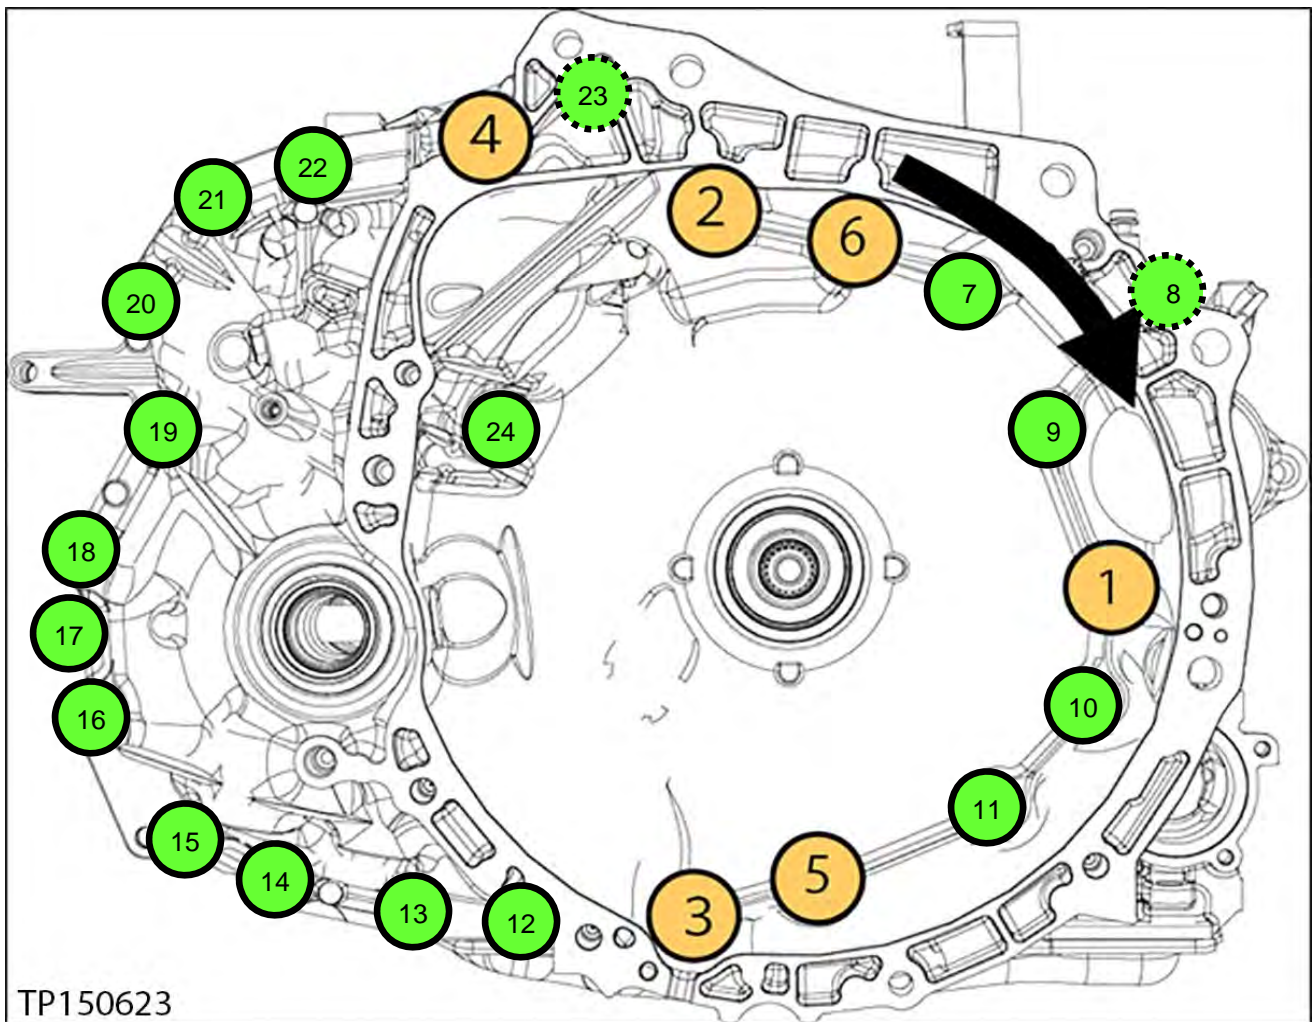

Figure 174
141. Install the torque converter housing onto the CVT case (see Figure 174 for torque sequence):
- Install new bolts (24).
- a. Torque the first six (6) bolts with symbol  in numbered sequence (see below).
**IMPORTANT:** Make sure to torque the bolts in the sequence shown (Figure 174).